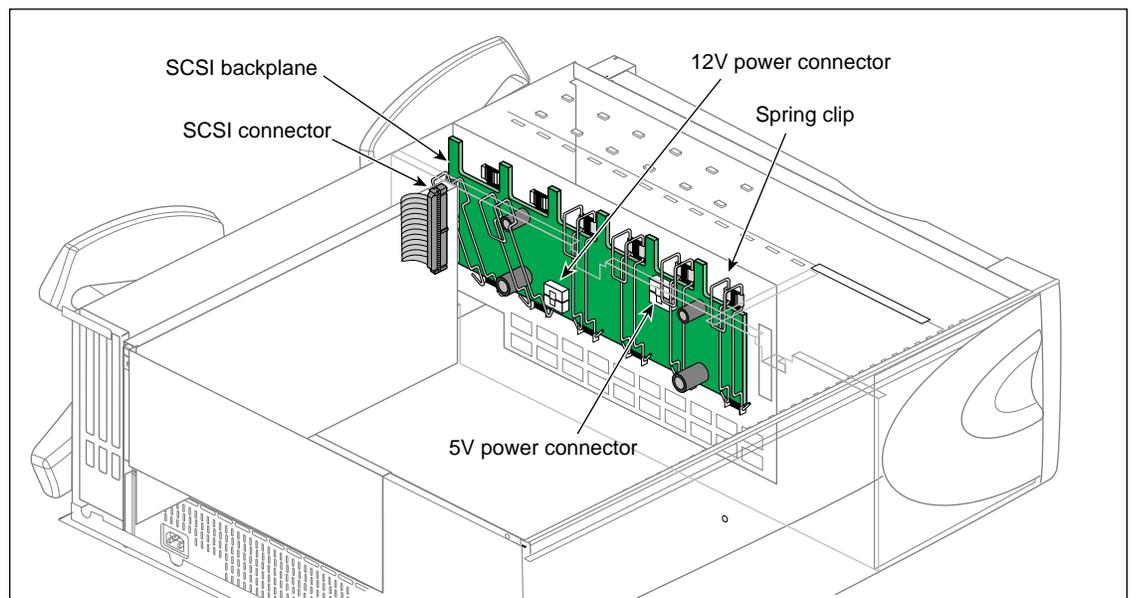

Figure 9-2 Cable Connections and Spring Clips On the SCSI Backplane
- Note that the power cable plugs differ from each other. Figure 9-2 shows their locations.
3. Snap down the six spring clips on the SCSI backplane, as pointed out in Figure 9-2.